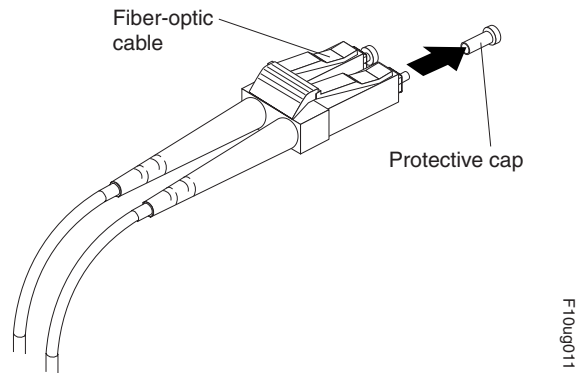

Figure 38. Removing caps from fiber-optic cables
1. Remove the protective cap from the fiber-optic cable. See Figure 38.